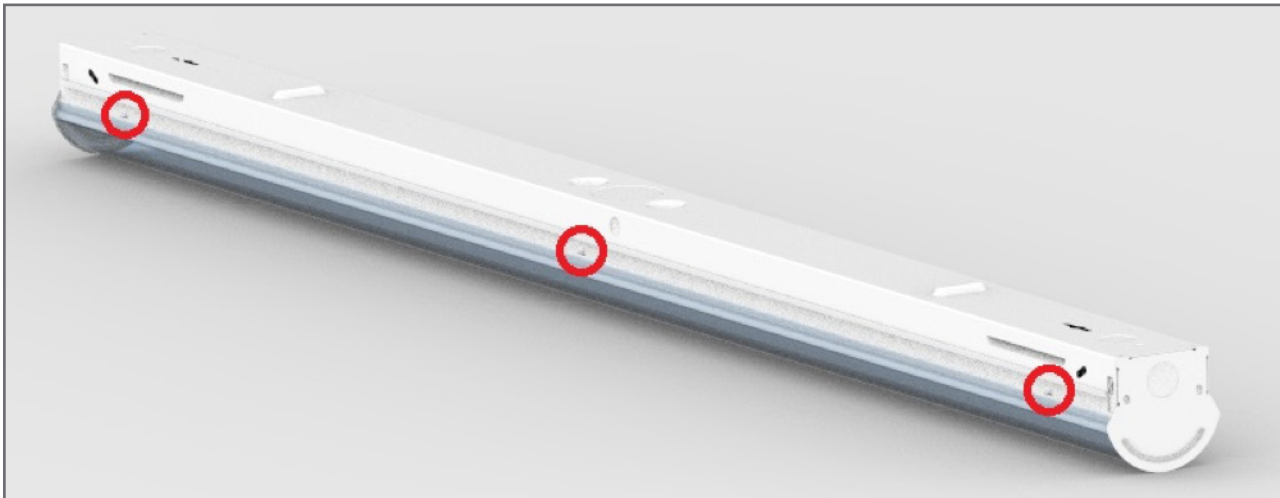

FIGURE 3
1. Squeeze the housing above each of the engagement points (circled in red in Figure 3) and separate the reflector plate and lens from the housing.
1. Squeeze the housing above each of the engagement points (circled in red in Figure 3) and separate the reflector plate and lens from the housing. Repeat this step for all luminaires intended for row mounting.